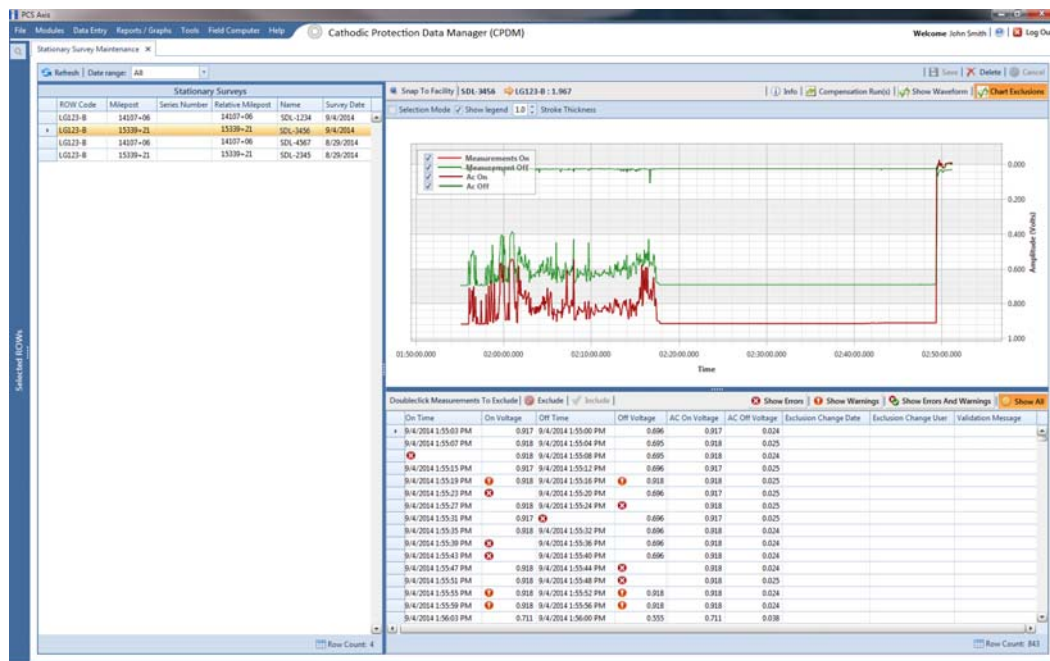

Figure 14-3. Stationary Survey Maintenance
- 2 Click **Data Entry > Stationary Survey Maintenance** (Figure 14-3).
- 3 If you want to filter the data view to view stationary surveys only for a particular time period, date range, or all stationary surveys, click the down arrow in the **Date range** field and select an option in the selection list. Then click  **Refresh** (Figure 14-3).
Conditions resulting in an  error icon include: missing ON and/or OFF voltage measurement; missing survey date and time. A  warning icon is present when the same voltage measurement is used for both the ON and OFF reading. See the next figure for an example (Figure 14-3).
- 2 Click **Data Entry > Stationary Survey Maintenance** to open the *Stationary Survey Maintenance* window (Figure 14-3, page 616).
- 4 Select a stationary survey in the *Stationary Surveys* grid. A graph of survey measurements associated with the selected stationary survey display in the top-right panel of the window (Figure 14-3, page 616).